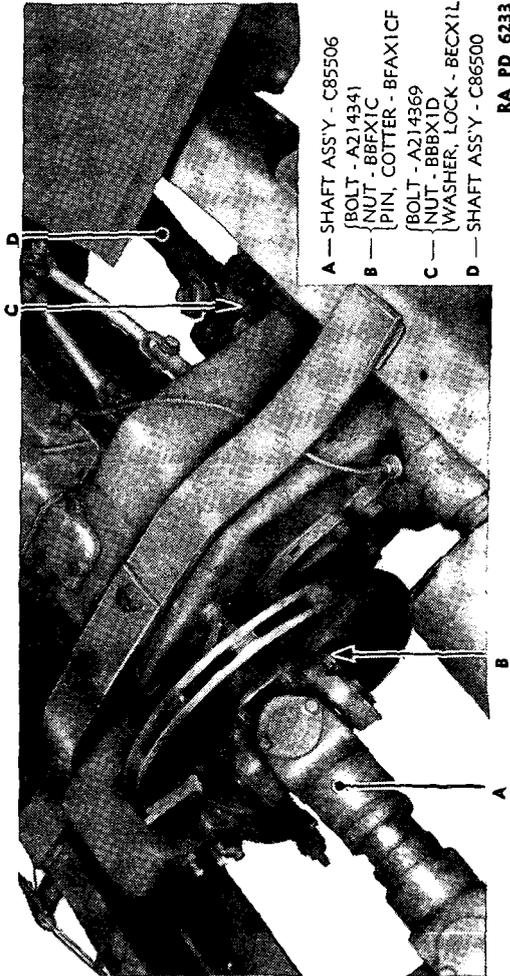

FIGURE 70.—Propeller shafts, installed.
**27. Removal of assembly** (fig. 70).—*a. Front axle propeller shaft.*—Tools: 5/8-inch open end wrench, 5/8-inch socket wrench. Re-